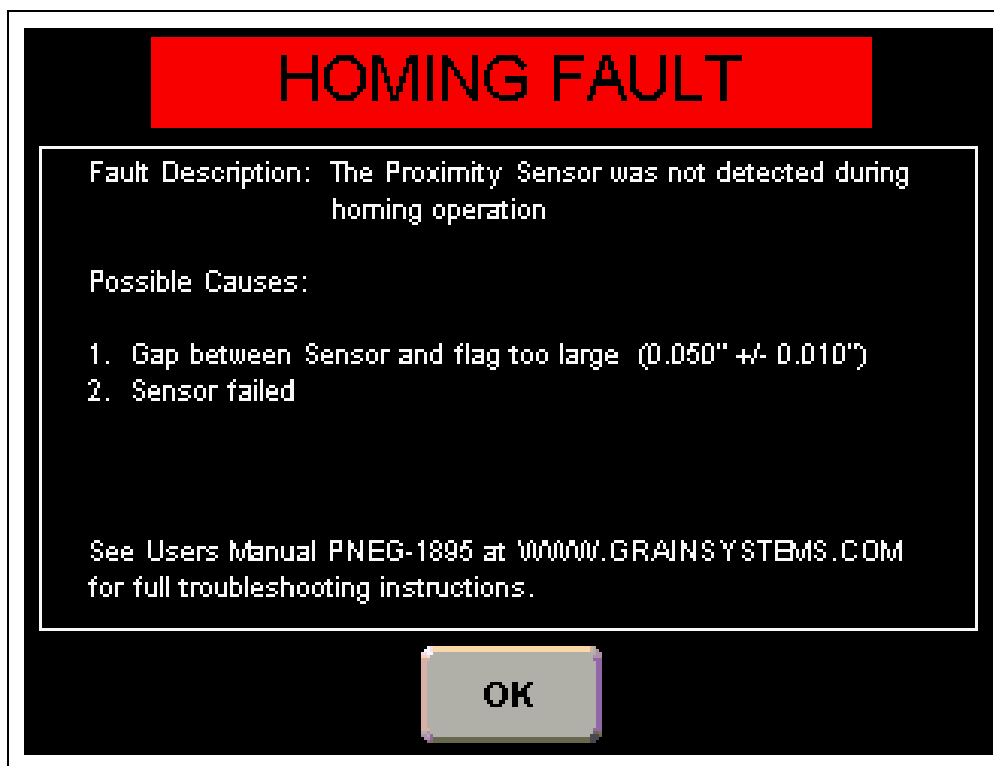

Figure 4W Homing Fault Screen
**Homing Fault:** Displays the “Homing Fault” screen which offers possible causes and solutions to faults caused by a timeout of the homing procedure. (See Figure 4W on Page 34.)